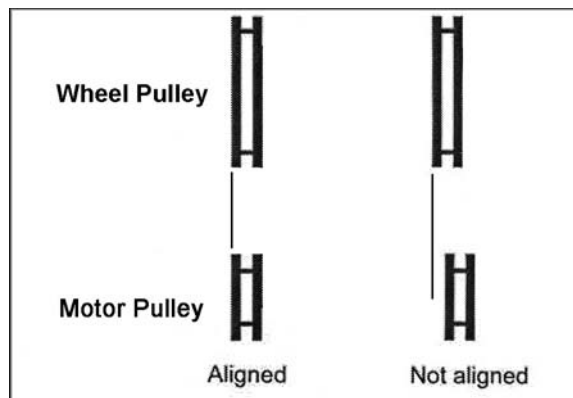

Figure 17
Refer to Figures 17 through 20.
2. If the pulleys do not lie in a straight plane (Figure 17), loosen the set screw on one of the pulleys and shift the pulley in or out until both pulleys lie in a straight plane. Tighten set screw.